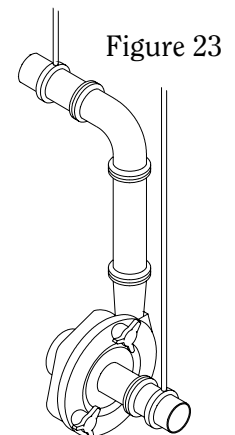

Figure 23
- Ensuring proper piping support and alignment at both the suction inlet and discharge outlet can help prevent serious damage to the pump housing (**Figure 23**).